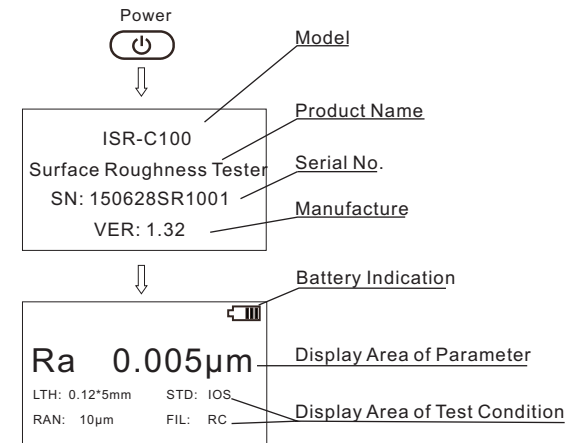

Figure 2-4 Boot Process
Press and release Power key  to switch on. The instrument automatically displays model, name and information of manufacturer, and then enters basic measurement status, as shown in Figure 2-4.
1. Contents of basic measurement status entered in the first switch-on are factory settings of this instrument. Settings and data of last switch-off will be displayed in the next switch-on. Basic measurement status will be entered automatically for each switch-on (as shown in Figure 2-4).